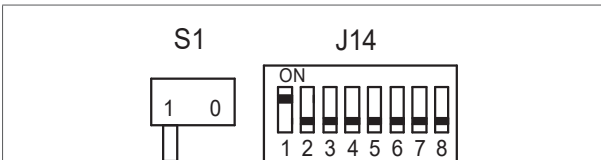

Figure 9 - Positions of the S1 and J14 switches
2. Set the S1 and J14 switches on the control unit as follows (figure 9 and 10):